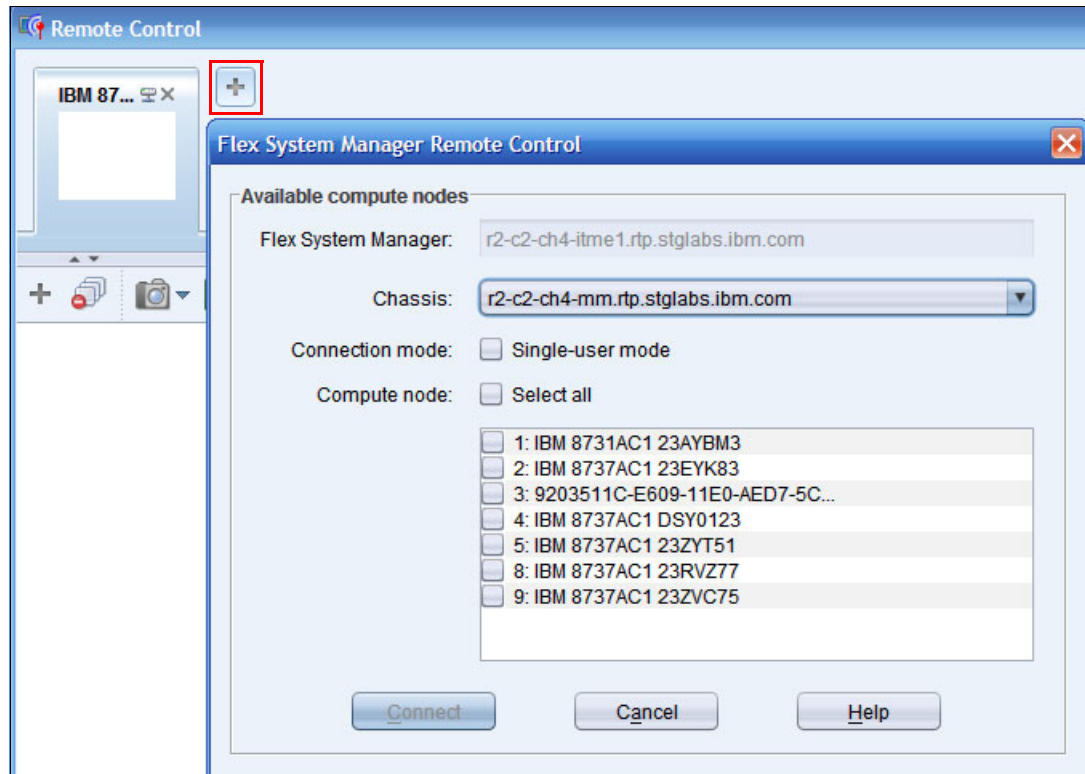

Figure 7-66 Window showing available compute nodes for Remote Control
11. You can quickly open a Remote Control session to another compute node by clicking the plus sign (+) icon next to your Remote Control session thumbnail. See Figure 7-66.